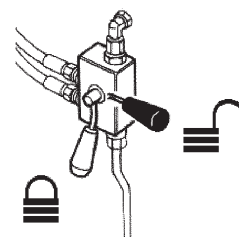

fig. 14
- make sure that the tap **R1** of the valve of the outrigger ram **S1** is closed (for the closed or opened position see fig. 14);